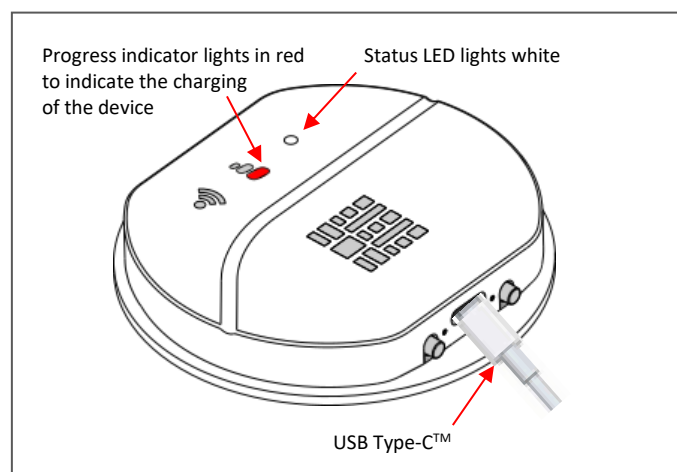

Figure 3
4. While charging, a red LED is switched on. The LED is switched off when the battery is charged. The LED is located in the biggest symbol of the progress indicator / **Figure 3**
When switching the scanner on while charging the battery or when the battery has been charged before and the scanner is still connected with a USB cable, the status indicator lights white and one symbol of the progress indicator lights red (see **Figure 3**). Under this condition the scanner does not open its Wi-Fi. Please disconnect the USB cable if you like to measure.